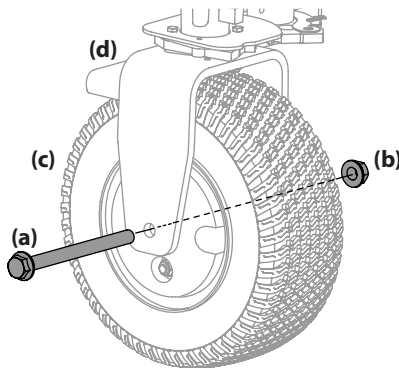

Figure 49
- Remove the hex screw (a) and flange lock nut (b) that secures the front wheel (c) to the yoke assembly (d). See Figure 49.